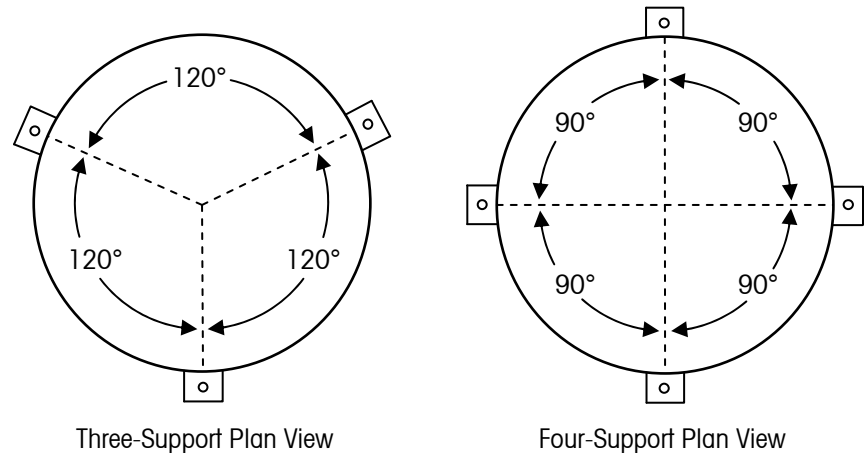

Figure 7-2: Plan View of Recommended Weigh Module Arrangements
1. Position the tension weigh modules around the tank so that each will support an equal portion of the tank's weight (see Figure 7-2). Make sure that the upper and lower support brackets line up with these positions.